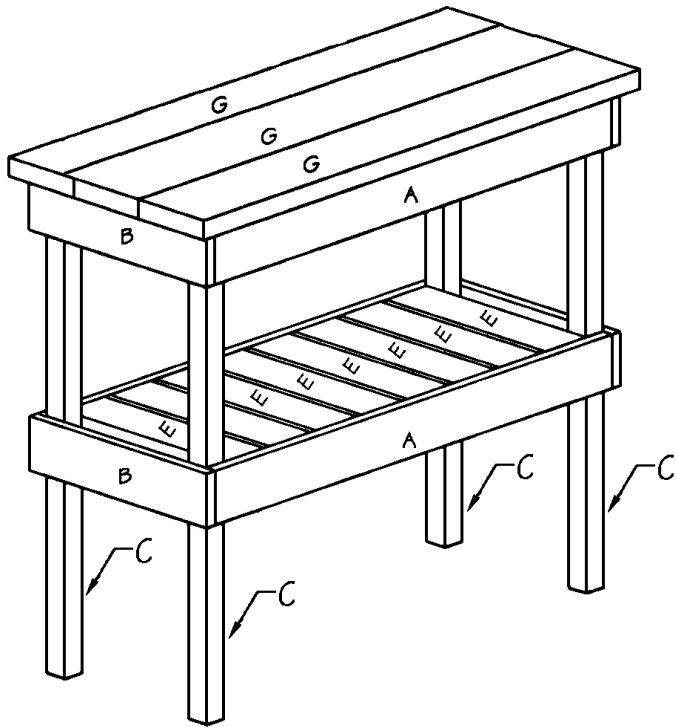

Figure 7
3. Cut three Tops (G) from 5/4 x 6 deck boards, each measuring 38 inches.
4. Place the three Top Boards (G) over the “Top”, as shown in *Figure 7*. The Top Boards (G) will overhang the “Top” by 1 inch on all four sides. Apply glue to the meeting surfaces, and nail through the Top Boards (G) into the Long Sides (A), Short Sides (B), and Top Support (F) using two 2” wood screws on each joint.